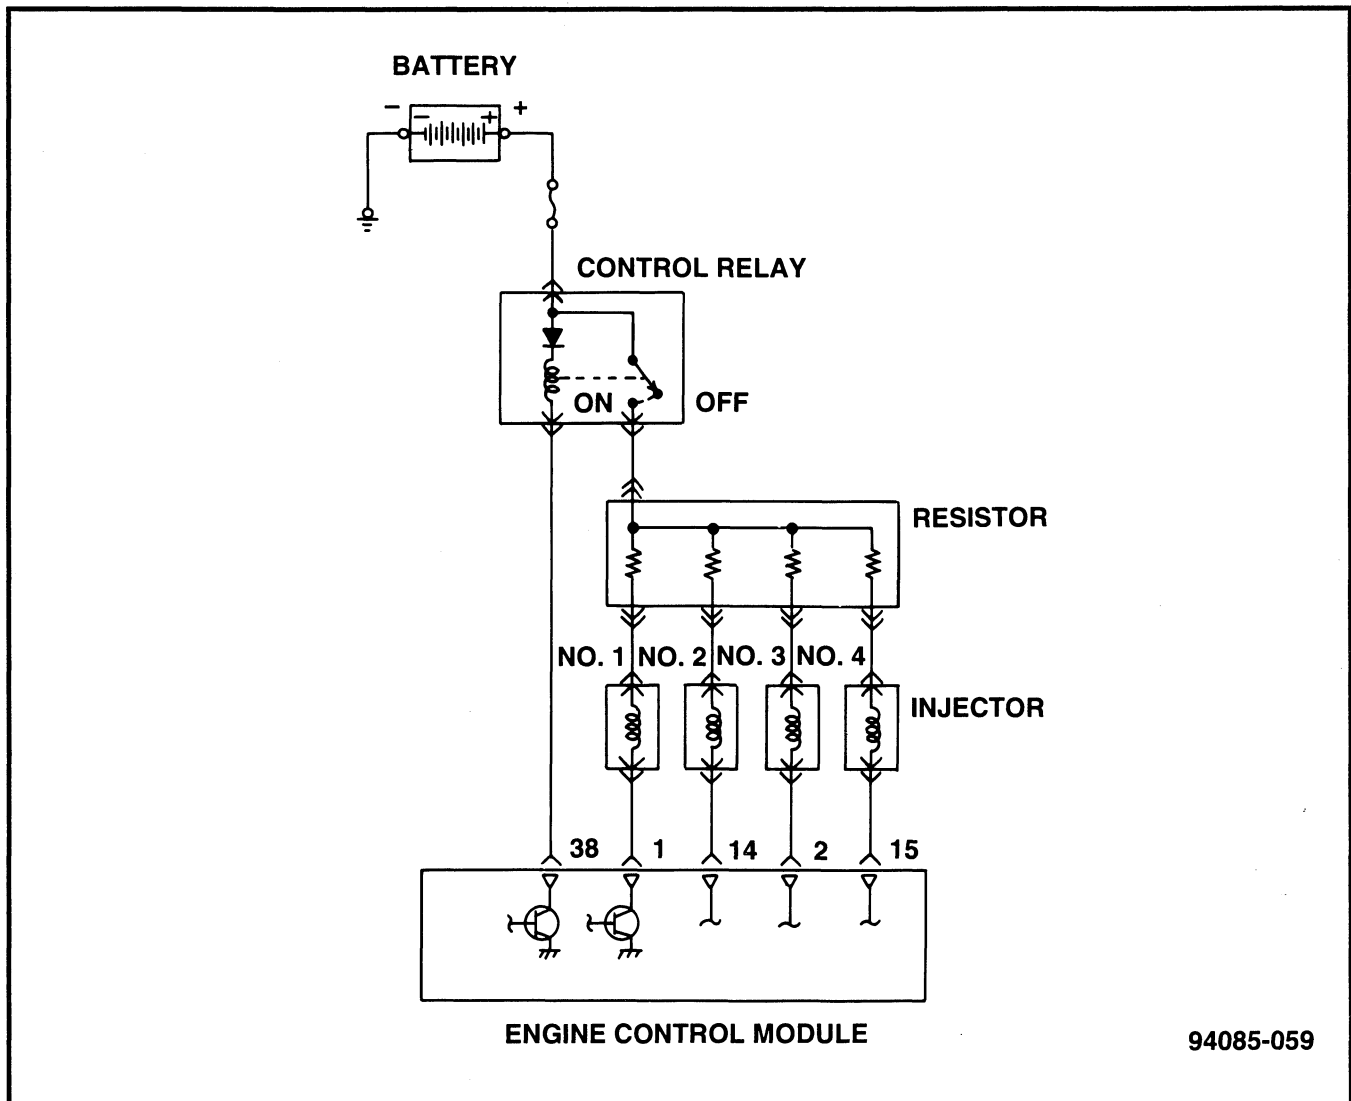

Figure 57 Fuel Injector Circuit
The fuel injectors used on this system are low-resistance (2-3 ohms) injectors that are fed battery voltage through separate 6-ohm resistors. Battery voltage from the MFI relay is fed to four 6-ohm resistors, which, in turn, go to each injector. The ECM controls the injector on-times by controlling the ground side of the injector through pin 1 (DG) for injector 1, pin 14 (YL/BK) for injector 2, pin 2 (YL) for injector 3, and pin 15 (DG/RD) for injector 4 (fig. 57). The Talon uses a sequential fuel injection system in which each injector is fired individually in the firing order, once every two rotations of the crankshaft. The exception is during cranking, when all injectors are fired simultaneously. There also is a rev limiter function, which shuts off all injectors when a predetermined rpm is reached.